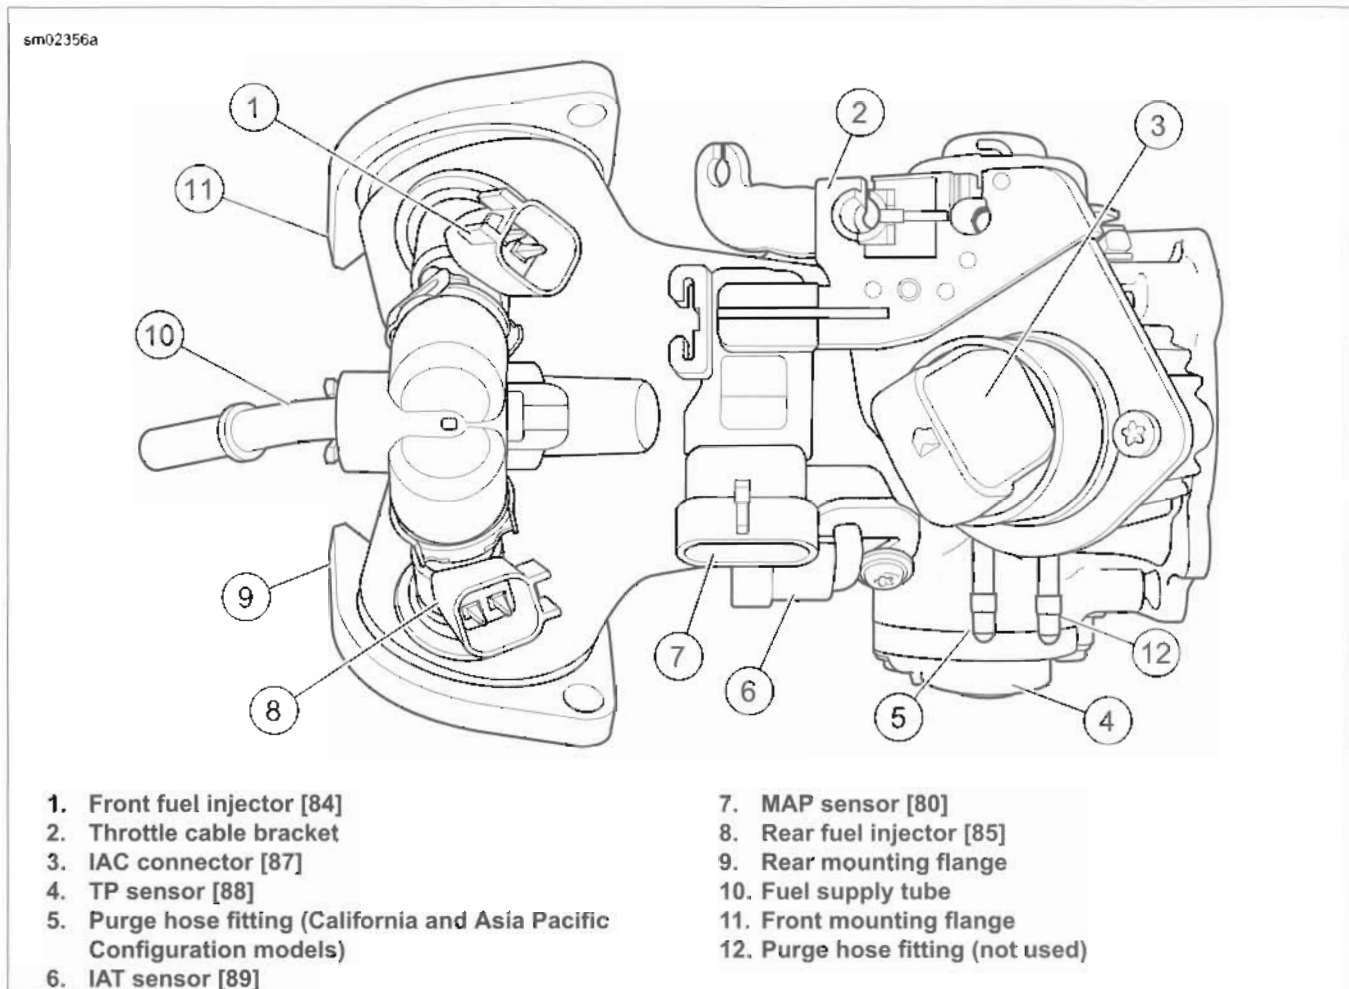
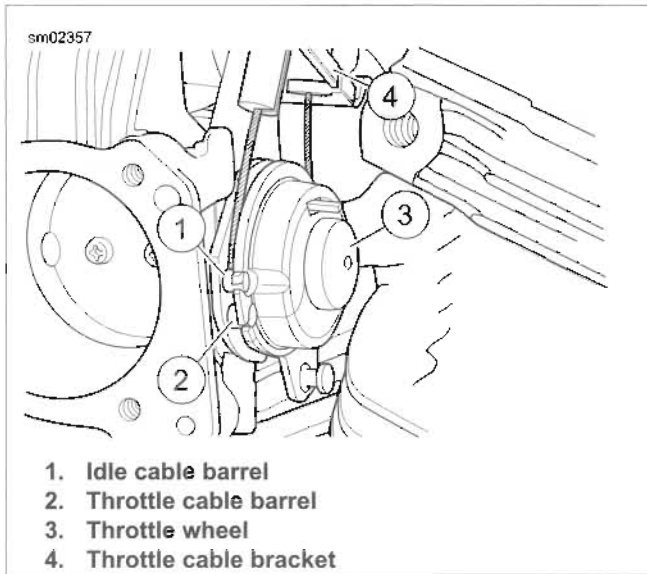

Figure 4-19. Induction Module
Figure 4-20. Throttle/Idle Cables
4. See Figure 4-19. Pull purge hose from fitting (5) at top of induction module (California and select models only).
5. See Figure 4-20. Pull idle cable barrel (1) from upper hole in throttle wheel. Pull throttle cable barrel (2) from lower hole. Using slots, release idle and throttle cables from guides in throttle cable bracket.
6. See Figure 4-19. Remove idle air control connector [87] (3) and manifold absolute pressure sensor connector [80] (7).
- See Figure 4-19. Place a new seal in each mounting flange (9, 11) with the beveled side in against the counter-bore.
- See Figure 4-20. Install sleeve on throttle cable housing into cable guide at top of throttle cable bracket (4).
- Drawing throttle cable downward, fit barrel end (2) into lower hole in throttle wheel (3).
- Install sleeve and spring on idle cable housing into cable guide at bottom of throttle cable bracket. Insert barrel end (1) into upper hole in throttle wheel.
- See Figure 4-19. On California and select models, attach purge hose to fitting (5) on throttle body.
- Connect front (1) and rear (8) fuel injector connectors, IAC (3) connector, MAP sensor (7) connector, TP sensor (4) connector and IAT (6) sensor connector.